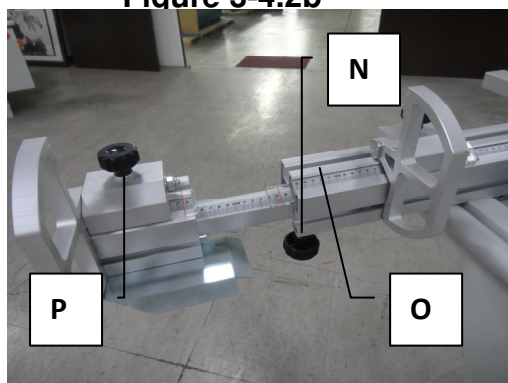

Figure 3-4.3
- Unlocking knob **N**(Fig. 3-4.3) of the extension piece.
- Slide the flip stop unit into groove **O** (Fig. 3-4.3). Then tight **P** (Fig. 3-4.3) to fix.